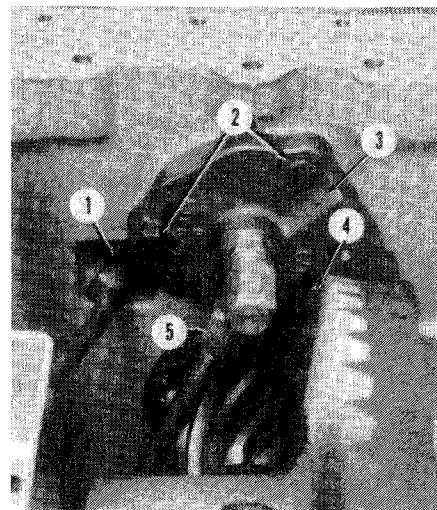

Fig. 184—View showing location of C3 oil pipe (5) and reduction shaft bearing retainer (3).
158. REDUCTION GEAR SHAFT. To remove reduction gear shaft, first remove Sound-Gard body as outlined in paragraph 134 and remove rockshaft housing as outlined in paragraph 236. Disconnect C3 oil line (5—Fig. 184) and place a piece of tape or a clamp around pipe below the flare nut to prevent nut from sliding to bottom of the pipe. Remove bearing retainer (3) with shims. Install a 7/16 inch cap screw into threaded hole in end of reduction shaft, then use the cap screw as a handle to pull shaft from the housing. Remove tow disconnect shifter yoke shafts as outlined in paragraph 157. Lift out tow disconnect yoke, shift collar, reduction gear and front bearing cone.
162. To remove the differential assembly, first drain transmission and hydraulic fluid. Remove Sound-Gard body as outlined in paragraph 134 and remove rockshaft housing as outlined in paragraph 236. Remove both final drives as outlined in paragraph 172. Remove the oil trough from transmission case. Remove differential lock oil line and the oil line fitting from left bearing retainer. Wrap a piece of tape around C3 oil line (5—Fig. 184) to prevent the nut from sliding to bottom of the line, then disconnect line from reduction shaft bearing retainer. Remove reduction shaft bearing retainer with shims. Remove cap screws securing hitch load control arm support if so equipped. Use a suitable hoist and lifting tool to support differential, then remove cap screws securing the bearing retainers. Remove the retainers keeping the shims with their respective retainers. Lift differential assembly from the case.
Illustration for Fig. 184 reproduced by permission of Deere & Company. Copyright Deere & Company.